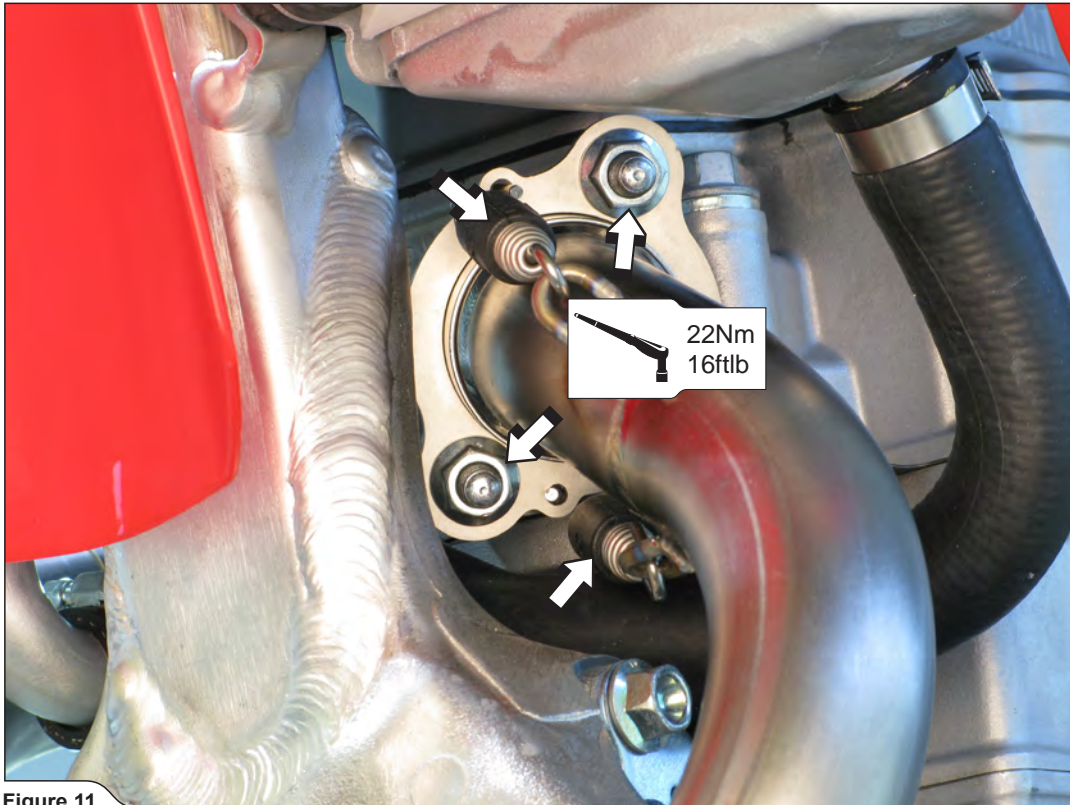

Figure 11
4. Insert the header tube into the sleeve, attach the springs and tighten the nuts to a specified torque (Figure 11).